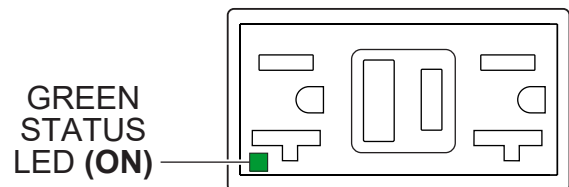

Figure 62. GFCI Receptacle (ON)
3. Verify that the **status LED** on the corresponding **GFCI receptacle** (Figure 62) is **ON (GREEN)**.